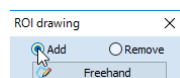

Figure 254 – Set Add/Remove mode for contour editing
2. Select the adding contour mode (see Figure 254). To add a drawn contour to the ROI, check the **Add** radio button. To remove a drawn contour from the ROI, check the **Remove** radio button.